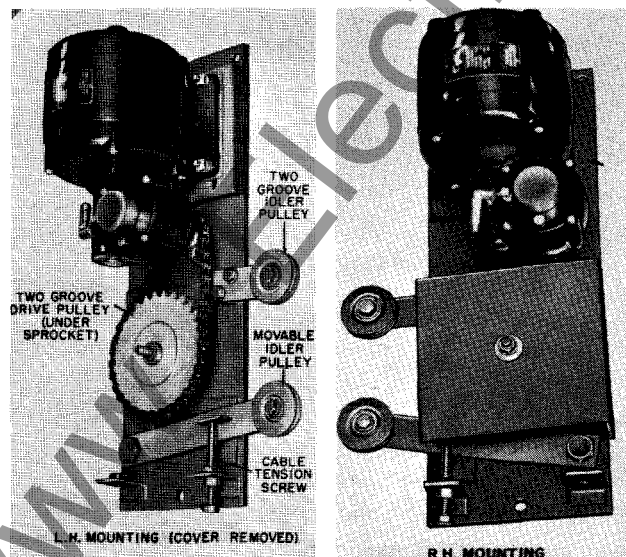
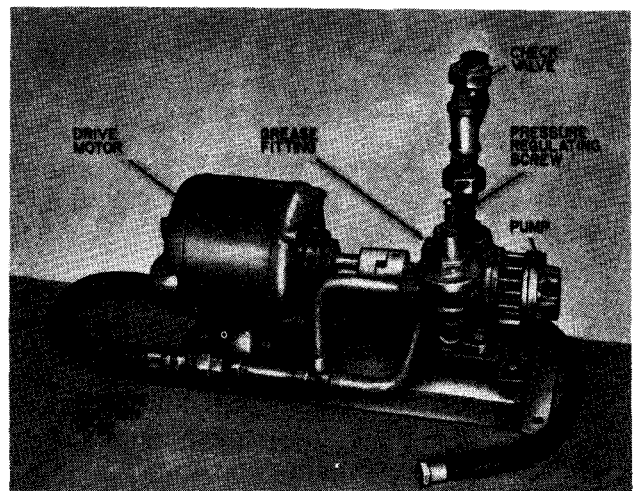
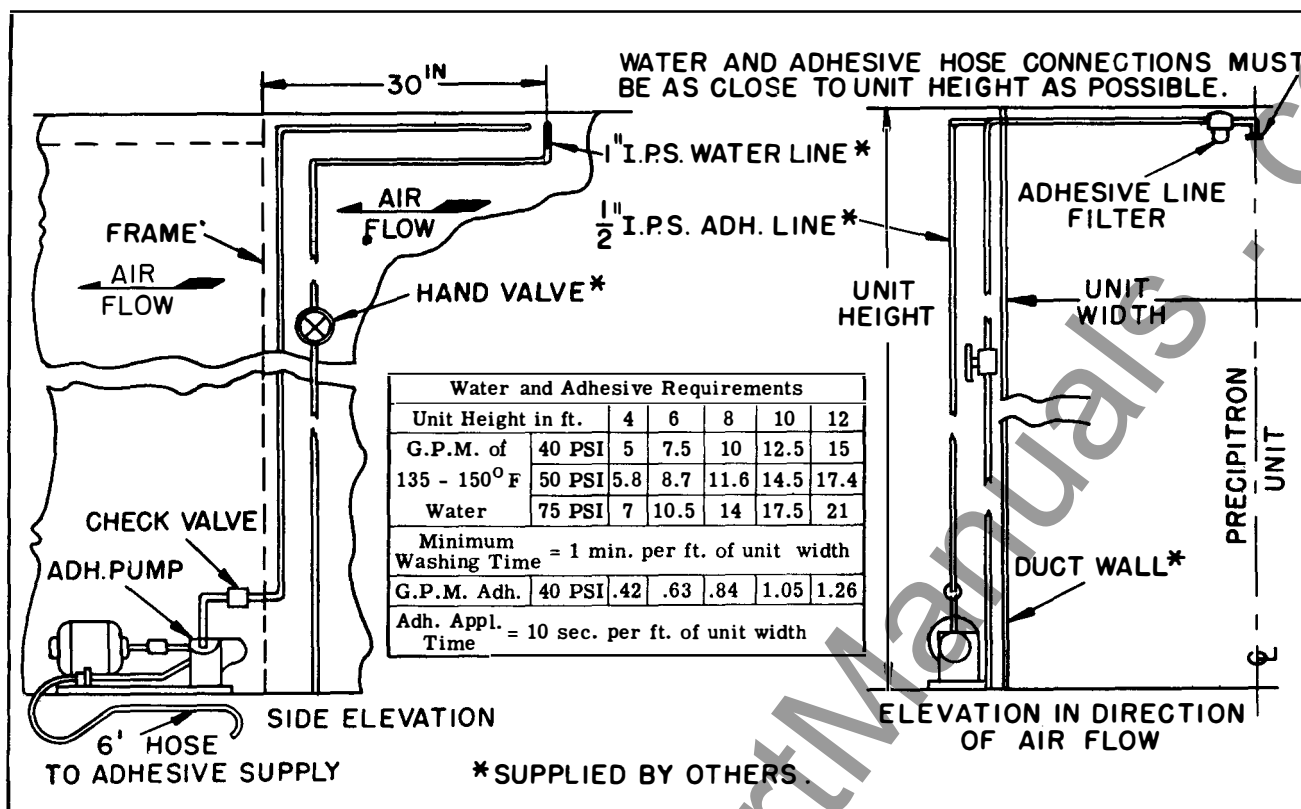
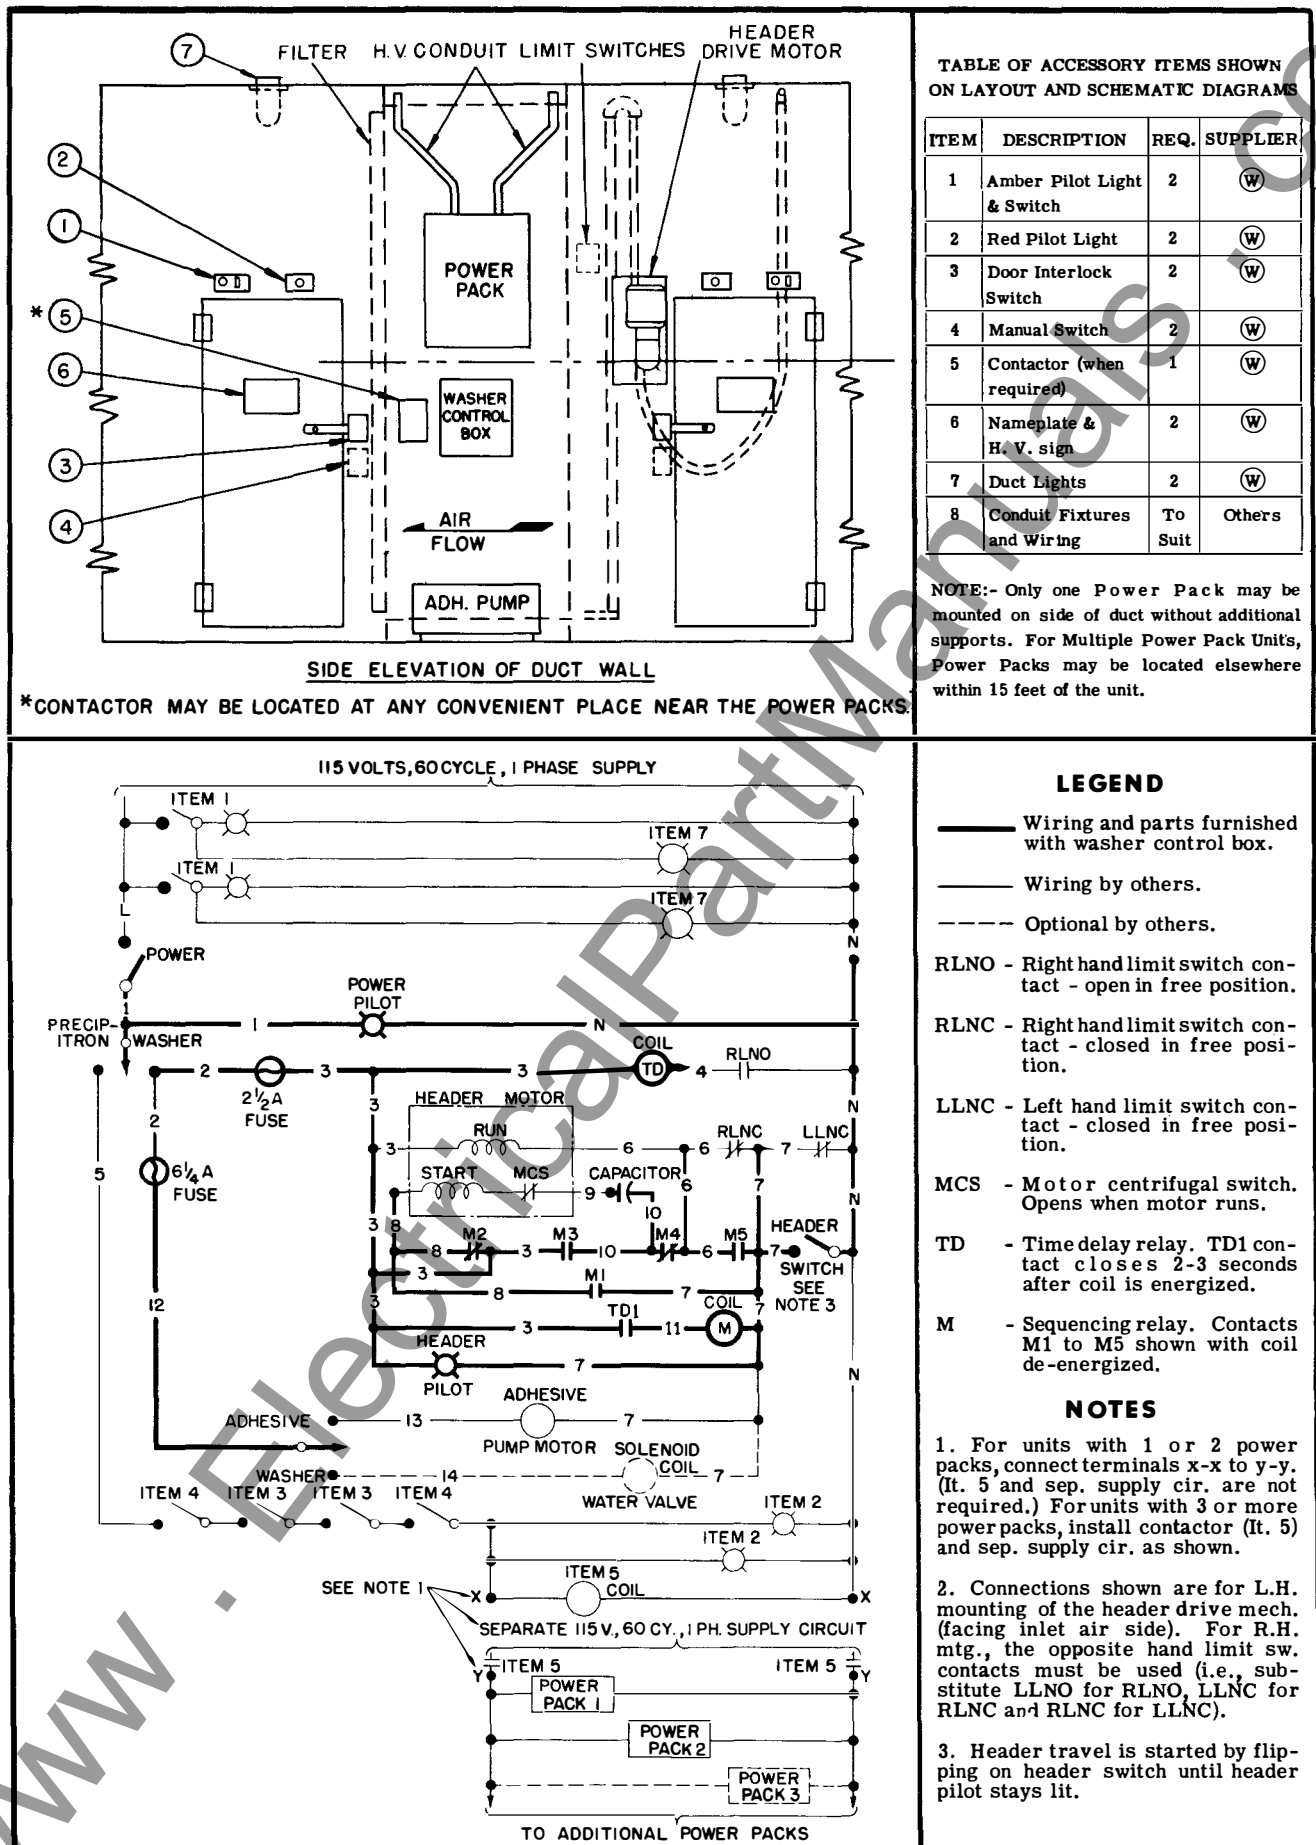

Fig. 17. Header Drive Mechanism
Fig. 22. Adhesive Pump
Fig. 23. Water and Adhesive Piping Layout Requirements
Fig. 29. Low Voltage Wiring
**Header Drive Mechanism** should be rigidly installed inside the duct wall precisely as shown in Fig. 11. The mechanism is shipped arranged for mounting on the left hand wall (facing inlet air side) but the pulley parts may be easily reassembled for right hand mounting. See Fig. 17.
**Adhesive Pump** (Fig. 22) should be installed outside the duct, adjacent to the end of the frame bank. See Fig. 23. The hose is for sucking adhesive from a container to the pump. Pump includes an adjustable pressure regulator and a check valve in the discharge line.
**Adhesive Piping** is installed as shown in Fig. 23. Thoroughly clean this line before installation. Install the adhesive filter as shown in Fig. 23.
**Water Supply.** To properly wash off the collected dirt, a 130-150°F. water supply with a minimum running pressure of 40 psi at the unit is necessary. See Fig. 23 for water quantities. A clean water supply is essential to avoid clogging of nozzles. Where the supply is dirty, strainers or other filtering means (not supplied) are required.
**Water Piping** (not supplied) should be at least 1" ips, and a hand operated shut-off valve should be provided convenient to the control box. See Fig. 23. Keep lines clean during installation. As a precaution against freezing temperatures, water lines should be pitched and provided with drain cocks. The union fitting on the water hose may be disconnected for draining.
Typical low voltage wiring is shown in Figs. 29 & 30. The 115 volt supply to the power packs should be run in conduit. All low voltage wiring inside the duct should be installed in conduit and made water tight.
**Control Box** (Figs. 25 & 26) is installed outside the duct wall as shown in Figs. 29 & 30.
**Header Drive Motor.** (Fig. 17) The insulated bushing around the lead wires should be replaced with a 1/2" threaded nipple and a conduit for making a conduit connection. See Figs. 29 & 30 for wiring connections.
**Adhesive Pump Motor** (Fig. 22) should be installed close to the end of the frame bank, outside the duct. See Figs. 29 and 30 for wiring.
**Magnetic Contactor** (supplied only with 3 or more power packs) should be mounted outside the duct adjacent to the power packs. See Figs. 29 & 30.
**Red Pilot Lights** (supplied with accessories) should be installed above the two duct access doors. See Figs. 29 & 30. These lights glow when power is connected to the power packs.
**Manual Switches** (supplied with accessories) should be installed inside the duct as shown in Figs. 29 & 30. These permit the operator to disconnect the 115 volt supply while he is inside the duct.
**Duct Lights** (supplied with accessories) should be installed at the ceiling on each side of the frame bank to facilitate inspection and servicing. See Figs. 29 & 30.
**Duct Light Switches and Pilots** (supplied with accessories) should be installed as shown in Figs. 29 & 30.
**Solenoid Operated Valve** (optional - not supplied) is convenient for automatically controlling the wash water. See Figs. 29 & 30.
**Name Plates** (supplied in "Instruction Package") are installed on the outside of the two duct access doors. See Fig. 29. They include a high voltage warning, special cleaning requirements and unit identification.